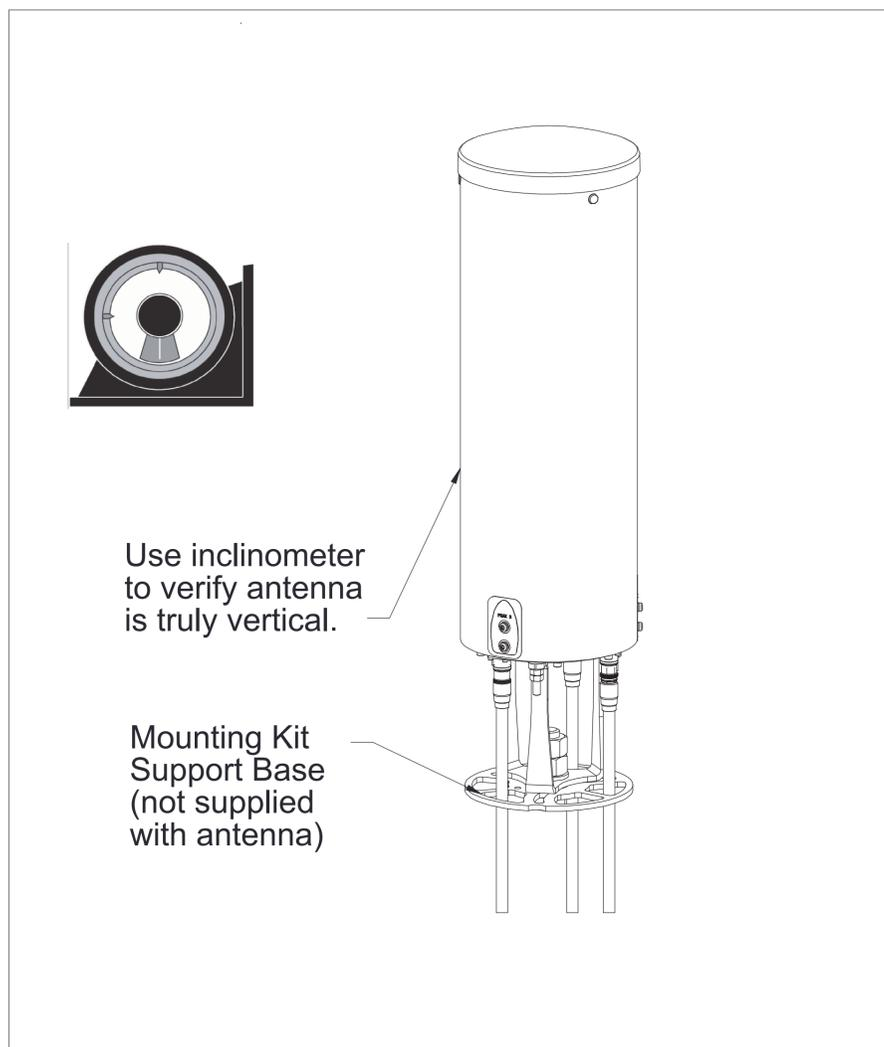

Figure 5. Routing RF Cable and Vertical Alignment
2. Attach the RF cable to the antenna GPS connector firstly, and then attach the RF cables to the antenna input connectors, and the 4.3/10.0 DIN connectors to 5-10 Nm (44-88 lbf-in), refer to Figure 5.